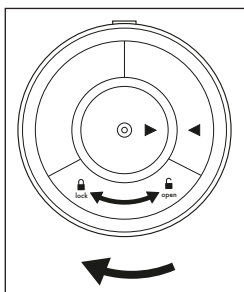

Fig. 2
7. Replace the battery compartment latch **13**. Turn the battery compartment latch **13** clockwise towards the **lock**  symbol until the two symbols ► ◄ are aligned and the battery compartment latch **13** audibly clicks into place (see fig. 2).